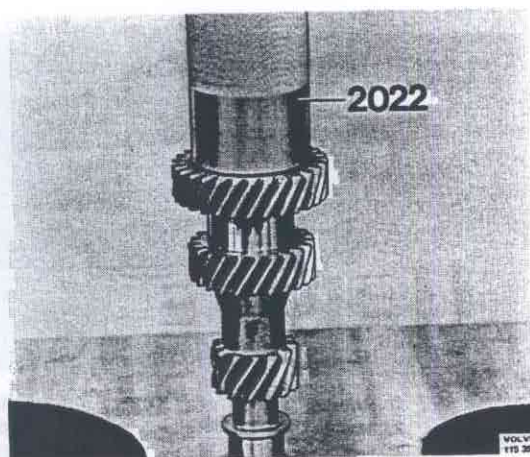

Fig. 43-91. Pressing on gear
1. Place 3rd gear on the shaft with the bevelled edge of the gear facing downwards, see Fig. 42-90. Press on the gear with 2022, Fig. 43-91. Fit the lock ring.